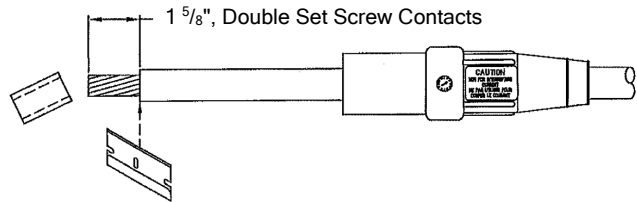

Figure 4
4. Remove the jacket from cable exiting the left side of the Cam-Lok. See Figure 4.